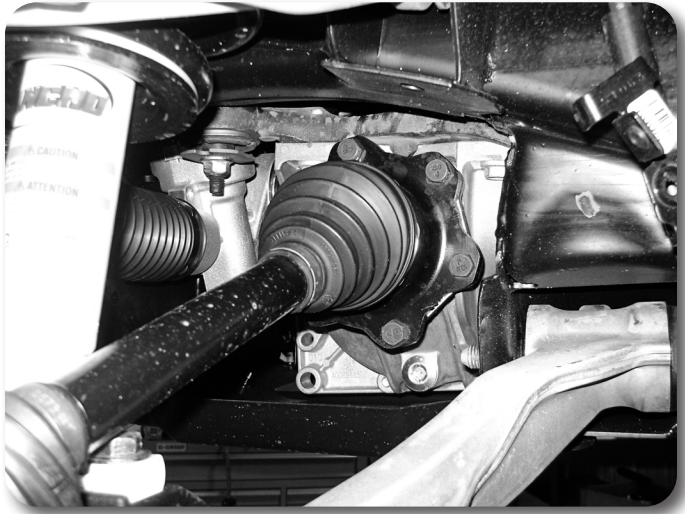

Figure 9
17. Remove the CV shaft mounting flange bolts (6 per side) **Figure 9**. Mark the shaft to indicate driver's or passenger's side. Bolts will not be reused.